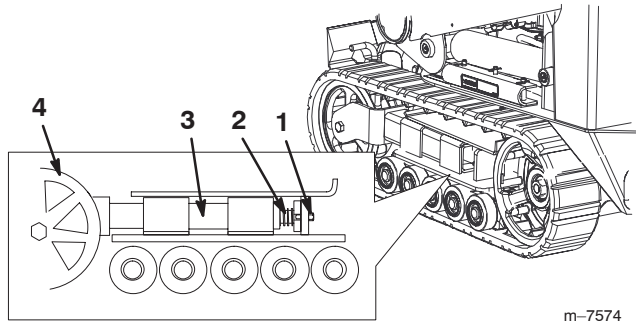

Figure 48
- Remove the locking bolt and nut (Fig. 48).
- Align the closest notch in the tension screw to the locking bolt hole and secure the screw with the locking bolt and nut (Fig. 48).
- Using a 1/2 inch drive socket, release the drive tension by turning the tensioning screw clockwise (Fig. 48 and 49).